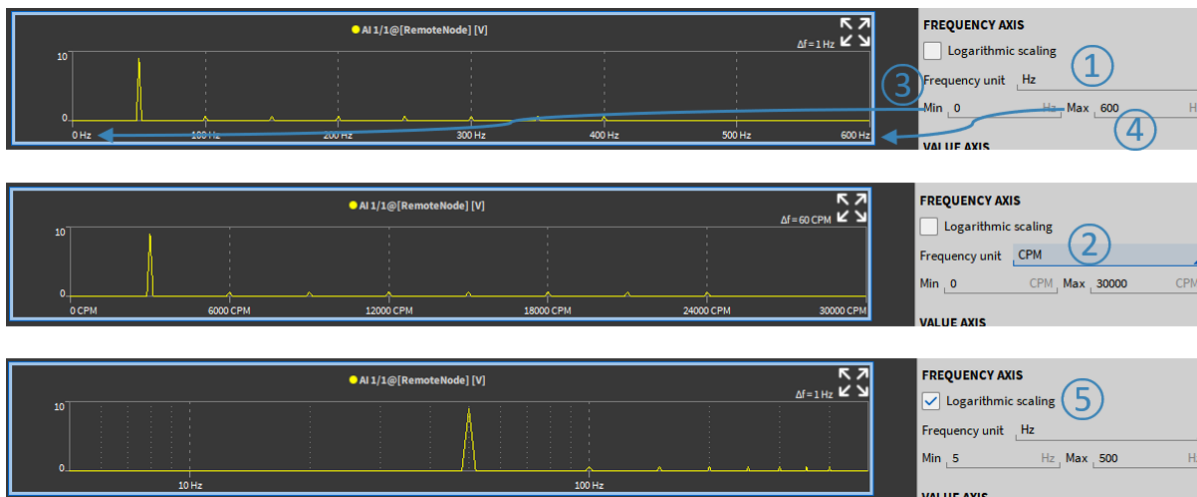

Fig. 8.52: Frequency axis settings
The unit of the X-axis is Hertz [Hz] per default (see ① in Fig. 8.52). The unit can be changed to Cycles Per Minute [CPM] which is defined as [Hz] \* 60 (see ② in Fig. 8.52). The axis' minimum can be freely defined (see ③ and ④ in Fig. 8.52). The scaling can optionally be set from linear to logarithmic scaling (see ⑤ in Fig. 8.52).